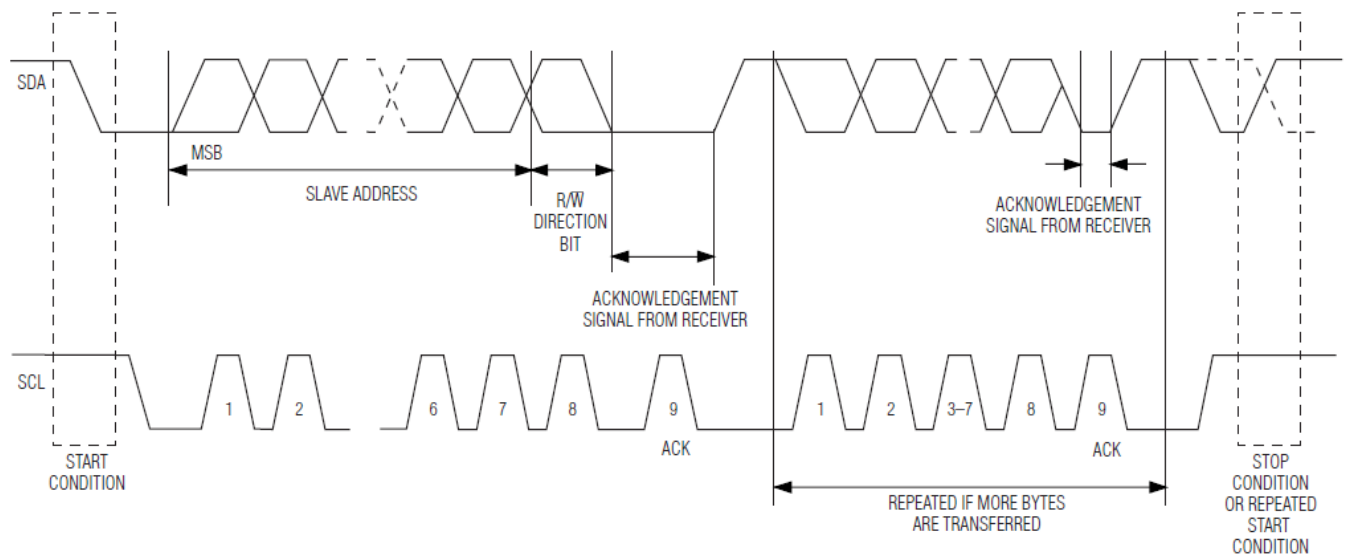

Figure 6. 2-Wire Data Transfer Protocol
The 2-wire serial-port interface supports a bi-directional data transmission protocol with device addressing. Connections to the bus are made through MOD\_DEF2 and MOD\_DEF1. Timing diagrams for the 2-wire serial port can be found in Figure 6. Within the bus specifications, a standard mode (100kHz clock rate) and a fast mode (400kHz clock rate) are defined.
- **Data valid:** The state of the data line represents valid data when, after a START condition, the data line is stable for the duration of the high period of the clock signal. The data on the line can be changed during the low period of the clock signal. There is one clock pulse per bit of data. Figure 6 detail how data transfer is accomplished on the 2-wire bus.
- **START Condition:** A high-to-low transition of MOD\_DEF2 with MOD\_DEF1 high is a START condition that must precede any other command. See the timing diagrams in Figure 6 for further details.